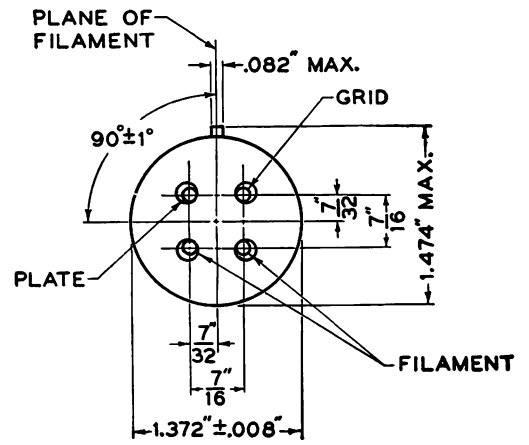

FIG. 2
**Mounting Positions—**Either vertical or horizontal. If mounted in a horizontal position, the plane of the filament, which is indicated in Figure 2, should be vertical.
The tube may be mounted in either a vertical or horizontal position. If mounted in a horizontal position the plane of the filament, which is indicated in Figure 2, should be vertical. To assure adequate ventilation the tubes should be mounted with not less than  $2\frac{5}{8}$  inches between centers when two or more tubes are used.